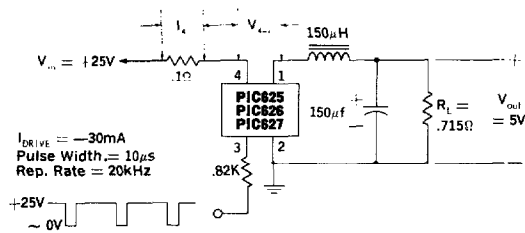

Figure 1. PIC625, 626, 627 Switching Speed Circuit
- The efficiency is a measure of internal power losses and is equal to Output Power divided by Input Power. The switching speed circuit of Figure 1, in which the efficiency is measured, is representative of typical operating conditions for the PIC625 series switching regulators.